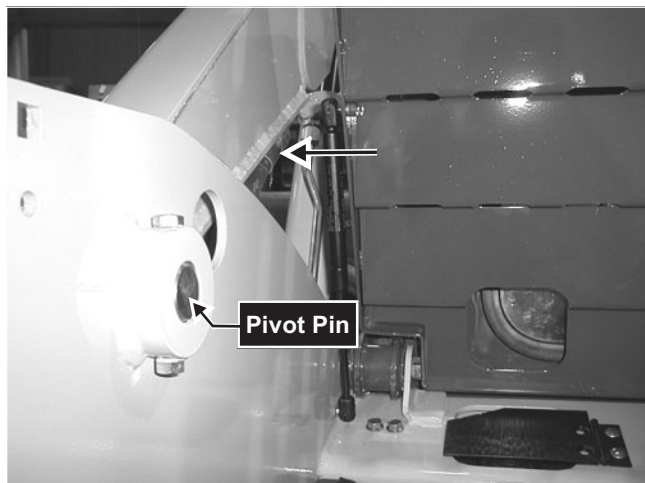

Fig. 4-32 Location underneath liftarm where hydraulic hoses connect to hydraulic tubes.
13. Disconnect hydraulic hoses attached to hydraulic tubes found underneath the liftarm (at back of liftarm). **Fig. 4-32**
15. Remove two capscrews and locknuts securing two liftarm pivot pins to mainframe. **Figs. 4-32, 4-34**
3. Secure liftarm pivot pin in place with two capscrews and locknuts. **Figs. 4-32, 4-34**
6. Connect hydraulic tubes to hydraulic hose assemblies according to markings made at removal. If no markings were made prior to removal refer to the *Hydraulic System* chapter for correct fit up. **Fig. 4-32**